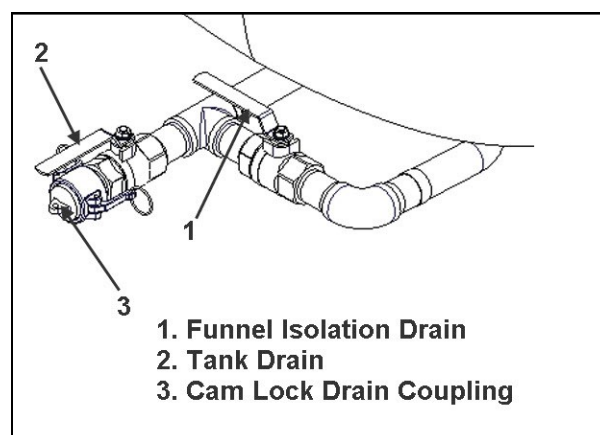

Figure 3-7 Funnel Isolation Valve, Open Position
- d. Open cover (1) to expose funnel.
- e. Inspect funnel and screen (2) for obstructions.
- f. Raise upper most section (3) of funnel assembly.
- g. Secure clamp by handle (4) once Funnel section is at the needed height.
- i. Open funnel isolation valve (See Figure 3-7). The valve handle will be pointed in line with the plumbing in the open position.